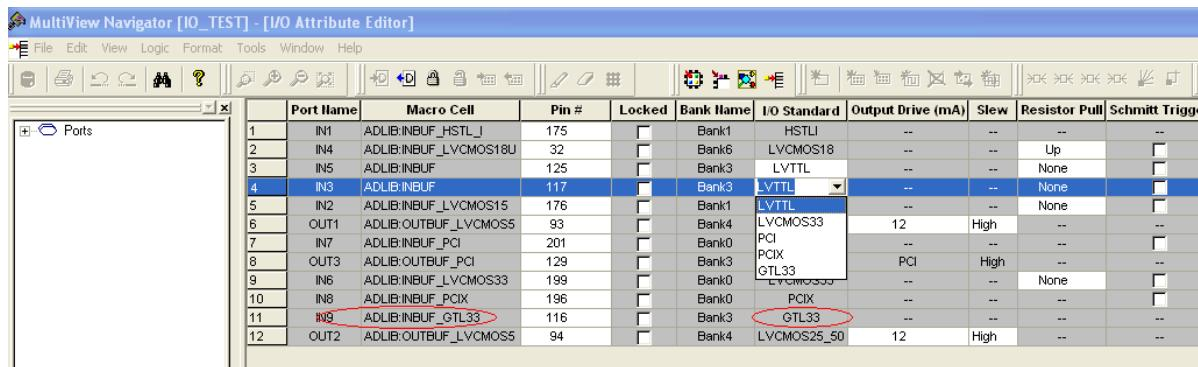

Figure 8-6 • Assigning a Different I/O Standard to the Generic I/O Macro
- Users will need to use the I/O Attribute Editor in Designer to change the default I/O standard if needed (see Figure 8-6 on page 193).
- The I/O standard of technology-specific I/O macros cannot be changed in the I/O Attribute Editor (see Figure 8-6).